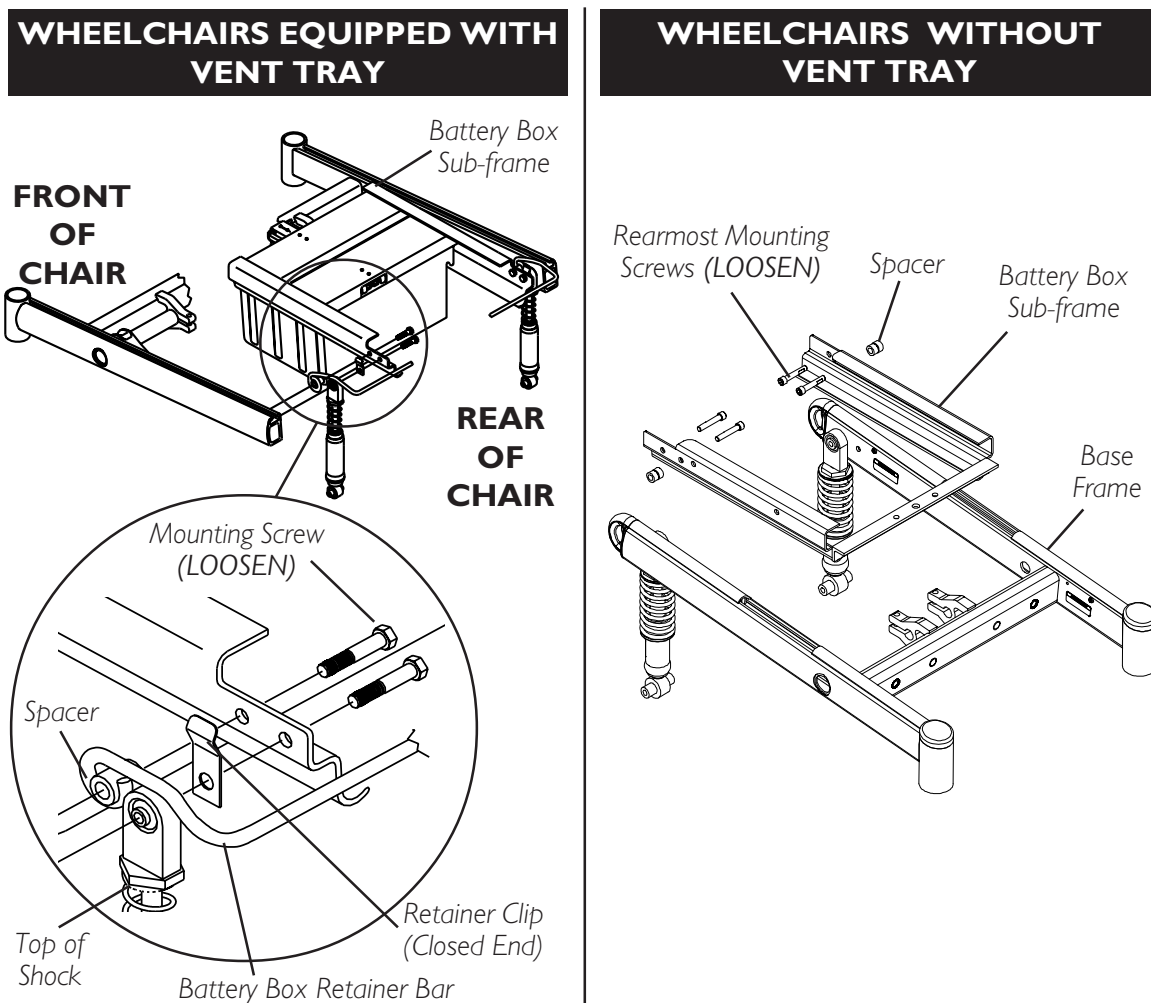

FIGURE 5 - SHOCK OR RUBBER ELEMENT REPLACEMENT - GROUP 24 BATTERIES
- Line up the NEW battery box retainer bar and spacers with mounting holes in the base frame (FIGURE 5).
- Reinstall the mounting screws that secure the battery box retainer bar to the base frame. Use Loctite 242 and torque to 160 in-lbs (FIGURE 5).
- B. WHEELCHAIRS EQUIPPED WITHOUT VENT TRAY - Reinstall the four (4) mounting screws that secure the shocks and spacers to the base frame.
GROUP 24 BATTERIES (FIGURES 5 AND 6)